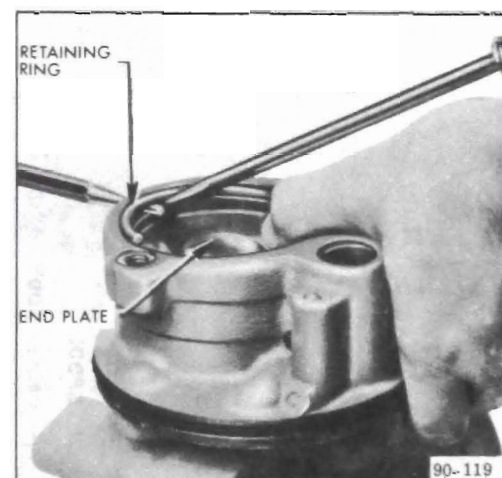

Figure 90-81 Removing End Plate Retaining Ring
9. Rotate end plate retaining ring until one end of ring is over hole in housing. Spring inward on one end of ring with 1/8" punch to allow screwdriver to be inserted and lift ring out. See Figure 90-81.